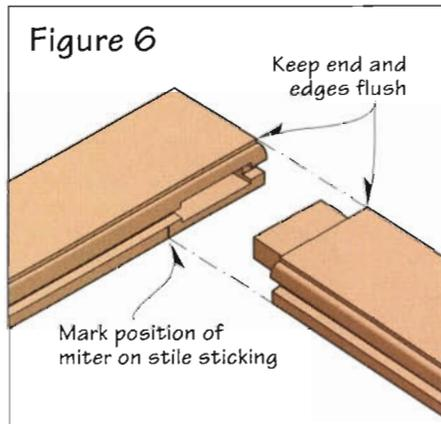

Figure 6
**Step 1.** Mark the position of the miter cut on the stile sticking as shown in *figure 6*. Note: Keep the end of the stile flush with the rail edge when marking. Next, lay out the  $45^\circ$  angle from the mark (*photo D*).